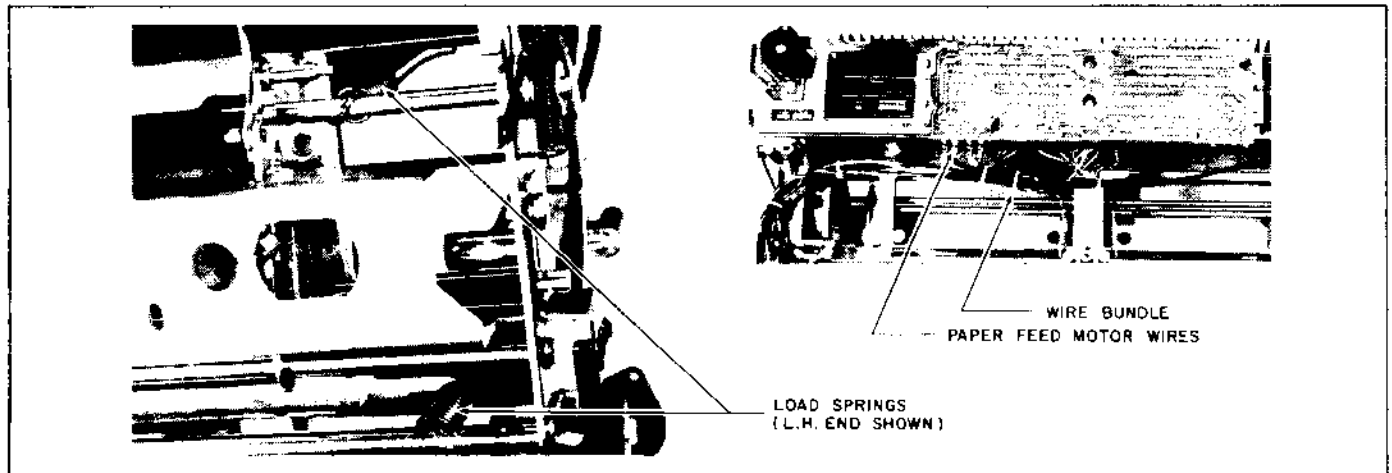

Figure 3-8. Carrier System Removal
- (1) Remove the access cover, platen, and top cover (make sure power is off first).
- (2) Remove and store the ribbon cartridge, printwheel, and paper cradle.
- (3) Use the no. 99009 T-Handle Spring Hook to disengage the four (4) Carrier System load springs from the printer's main frame (2 long springs in front, and 2 short springs in the rear). Open the wire bundle and disconnect the four (4) paper feed motor wires from the mother board. Refer to Figure 3-8.
- (4) Remove the 'E' ring and the paper feed idler gear. Locate the two carrier assembly load springs, one on each end, mounted between the inboard end of the rear support screw on the main frame. Remove these springs also. Store the springs, gear, and 'E' ring in a safe place. Refer to Figures 3-8 and 3-9.